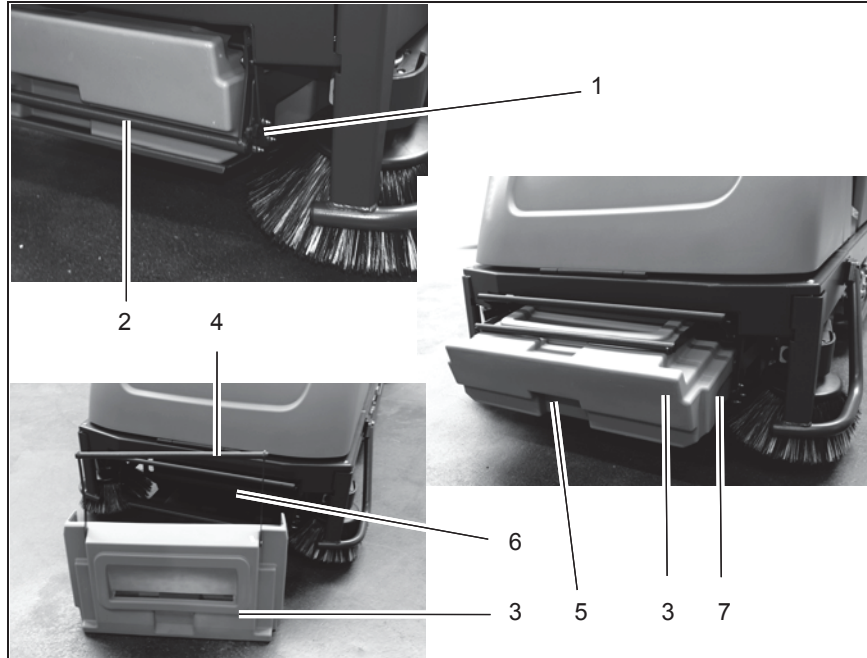

Fig. 40
1. Press the locking mechanism (Fig. 40/1) of the bar (Fig. 40/2) up and pivot the bracket upwards.
2. Take hold of the dirt hopper (Fig. 40/3) by the handle recess in one hand and pull it forwards out of the dirt hopper holder. While pulling the dirt hopper out, take hold of the dirt hopper handle with the other hand and pull the dirt hopper out completely with both hands.
3. Pivot the handle of the dirt hopper (Fig. 40/4) upwards and bring the dirt hopper to the waste disposal container.
Empty the content of the dirt hopper (Fig. 40/3) in a waste container at regular intervals.
1. Fold up the handle of the dirt hopper (Fig. 40/4).
2. Take hold of the dirt hopper with both hands by the handles at the sides (Fig. 40/7).
4. Pivot the bar (Fig. 40/2) downwards and secure in place with the locking mechanism.
If the dirt hopper (Fig. 40/3) is not properly engaged, the "Dirt hopper and front flap indicator of the pre-sweep/vacuum unit" lamp (Fig. 22/3) lights up. The pre-sweep/vacuum unit does not work.
The filter system of the dust vacuum (use category "U") is located in the filter case above the dirt hopper (Fig. 40/3). The filter case is movable, the movement linked to that of the dirt hopper (Fig. 40/3) in order to be able to shake the filter element (panel air filter) when the agitating motor is switched on.